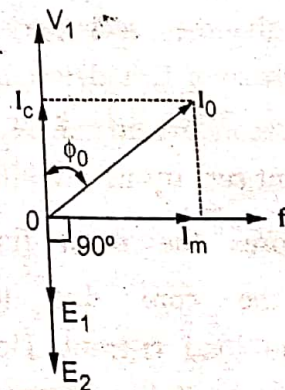

Fig. Q.12.1 Practical transformer on no load
• The phasor diagram is shown in the Fig. Q.12.1.